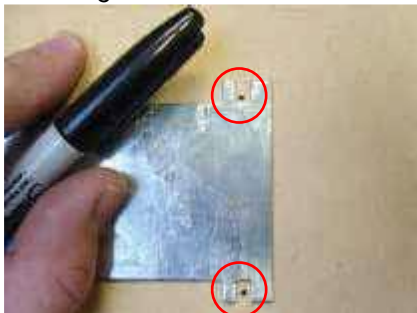

Figure 1
2. To mount wiper motor, drill 4 – 5/32" holes (figure 1).